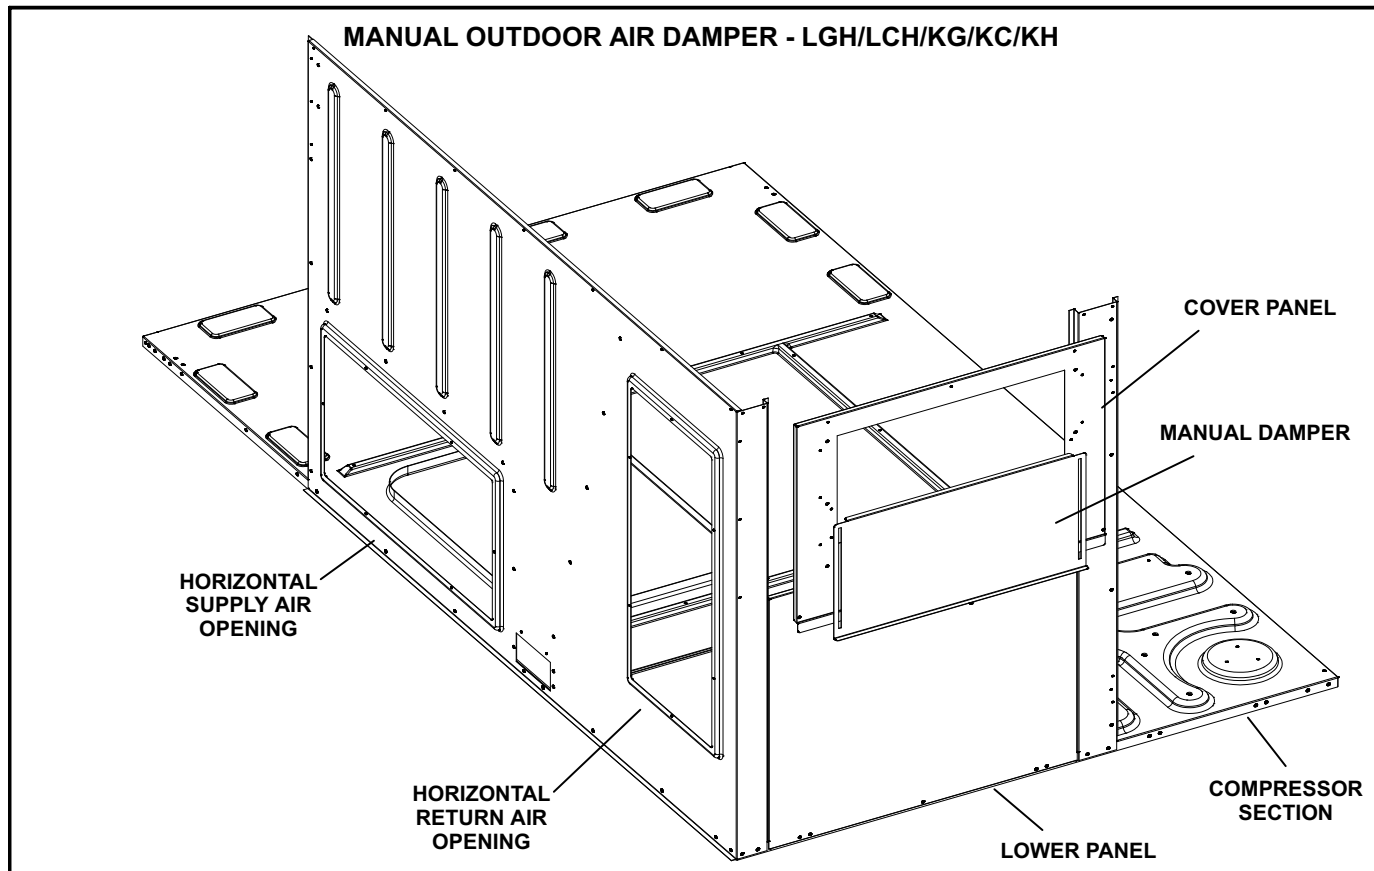

FIGURE 2
Use four pins and four washers to secure insulation to panel. See figure 2.
- 5- Install the cover panel in the unit as shown in figure 2.